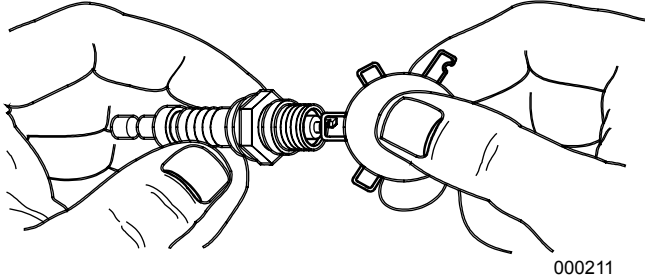

Figure 4-4. Spark Plug
3. See Figure 4-4. Inspect electrode gap with wire feel gauge and reset spark plug gap to 024-.032 in (0.6-0.8 mm).